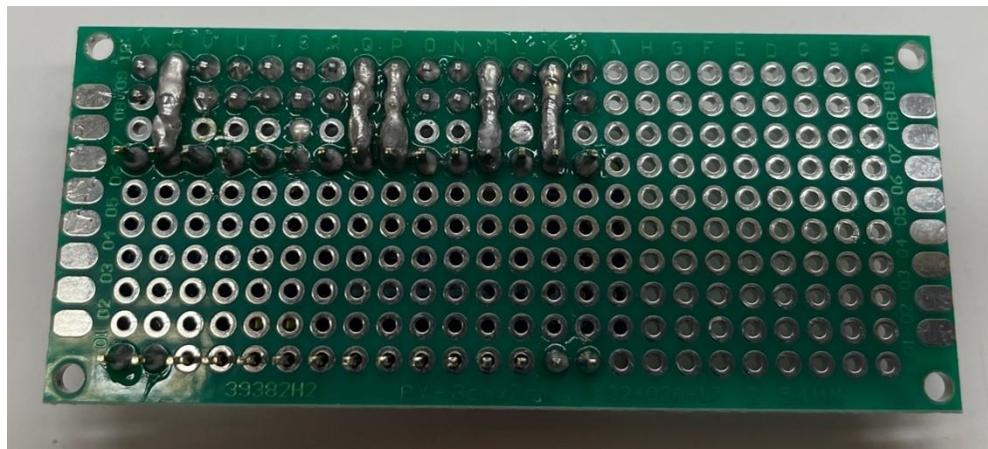

Figure 2.11 - Reverse side of board and pins
8) Solder the ground pin, 5V pin, 3V pin, A4 pin and A5 pin across to their corresponding headers as shown in Figure 2.11.